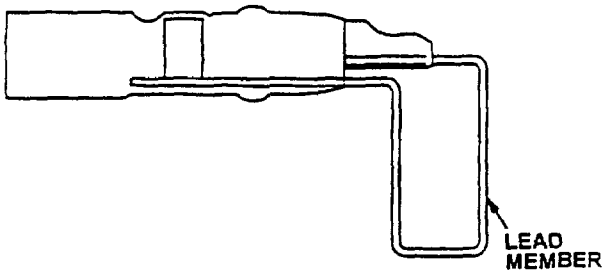

Figure 13 . PinPak Coaxial Termination
31. PinPak coaxial terminations (Figure 13) are used to terminate coaxial cables to PC boards. These terminations consist of a heat-shrinkable sleeve containing a pre-shaped lead member, solder preforms, and meltable insert. The lead member consists of a ground lead portion and a signal lead portion, which are on a fixed spacing to match the holes in the PC board. The other end of the lead member fits the coaxial cable so that the ground lead aligns with the braid and the signal leads aligns with the cable center conductor. When the termination is installed, the shield and the center conductor are simultaneously soldered to the lead member and the sleeve shrinks to form an insulated and strain relieved termination.